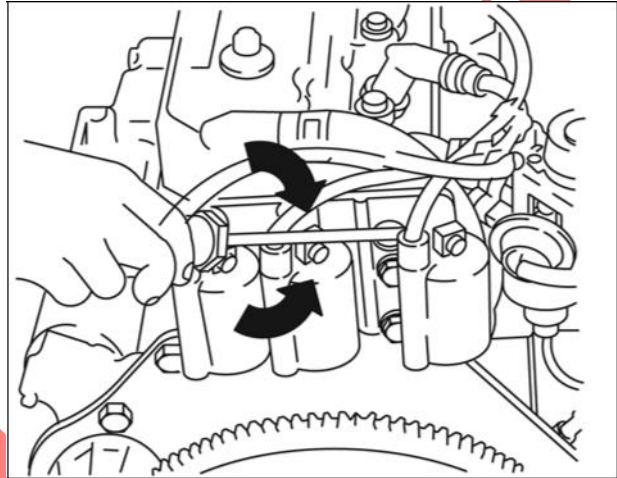

Figure 58
5. Turn idle mixture screw to mid point between rich and lean (Figure 58).